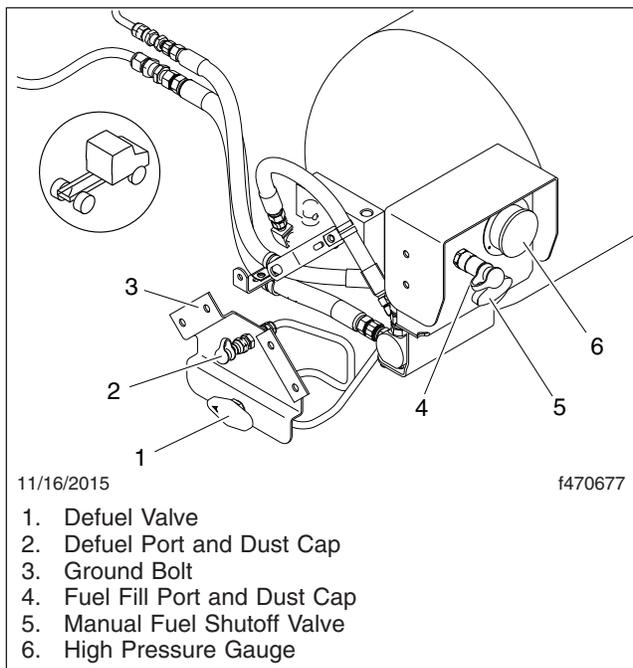

Fig. 6, CNG Fuel Panel
4. Inspect the fuel fill port for signs of damage or leaks. Ensure the port dust cover and the O-ring inside the port are both present and in good condition. See Fig. 6.